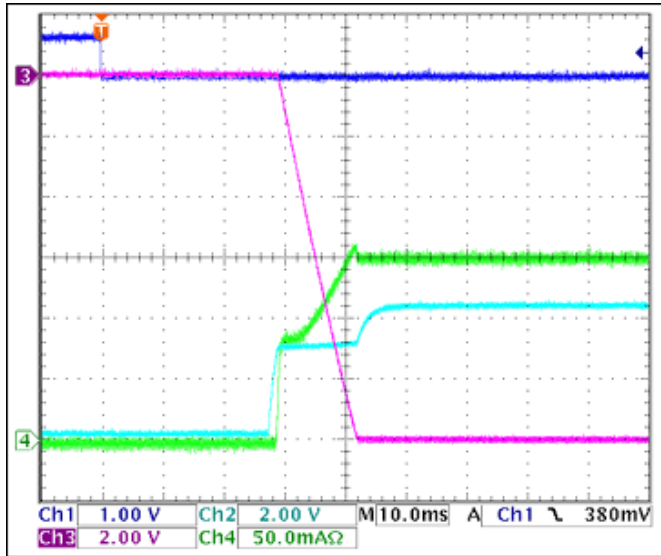

Figure 8. -12V turn-on waveforms
-12V output-voltage slew rate $\approx 1\text{V/ms}$ (see **Figure 8**)